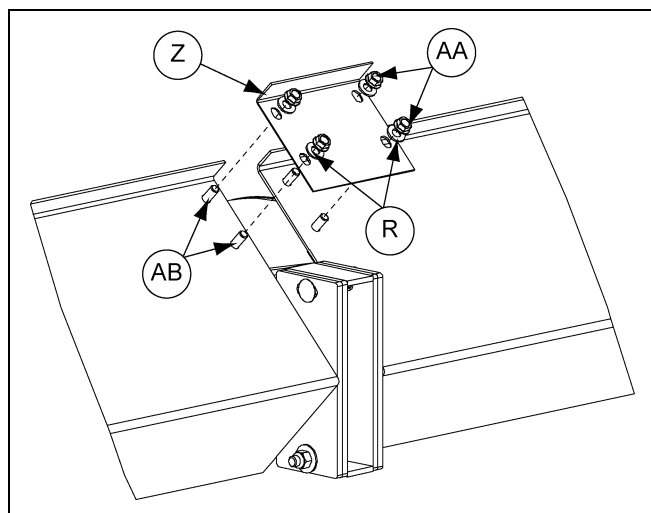

Figure 4AP
13. Bolt the shield splice plate (Z) to complete the connection of the two (2) back shields. Use four (4) 5/16" x 3/4" hex bolts (AB), flat washers (R) and serrated flange nuts (AA). (See Figure 4AP.)